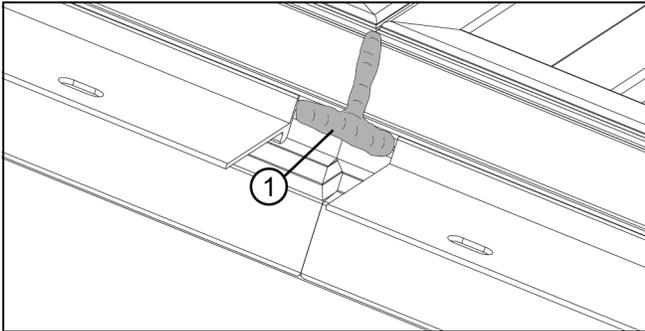
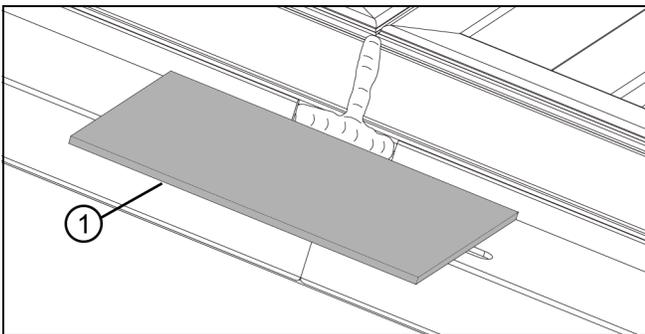

Figure 34
Figure 35
6. Apply silicone sealant at both mullion joints from the frame exterior edge to the drip cap/nailing fin kerf and across the kerf over the mulling pin as shown in Figure 34 and Figure 35. Apply the nailing fin connector by removing the paper backing from the connector and pressing into place.